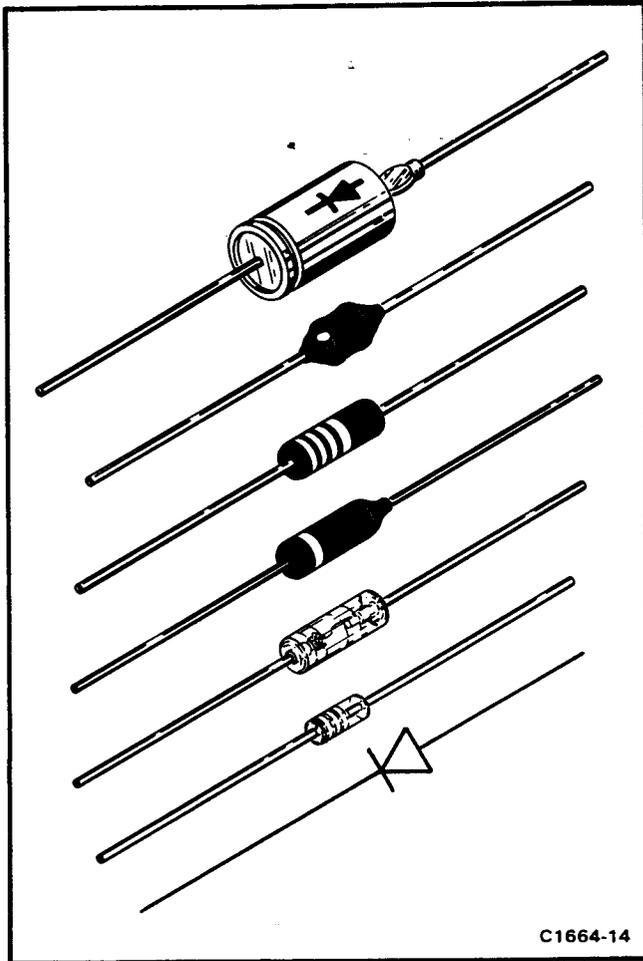

Fig. 5-3. Diode polarity markings.
**Diode Color Code.** The cathode of each glass encased diode is indicated by a stripe, a series of stripes, or a dot. Some diodes have a diode symbol printed on one side. Figure 5-3 illustrates diode types and polarity markings that are used in this instrument.